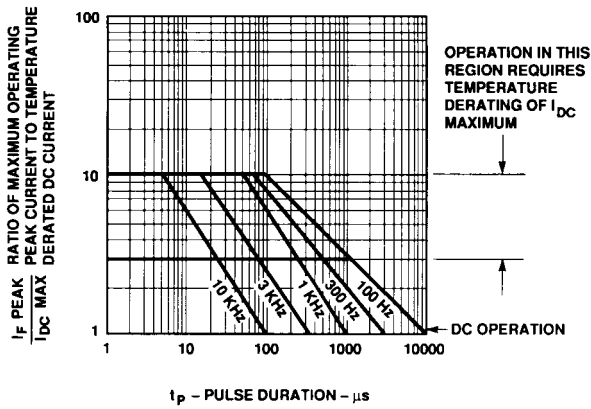

Figure 6. Maximum Tolerable Peak Current vs. Pulse Duration - HER, Orange.
- See Figure 6 to establish pulsed conditions.